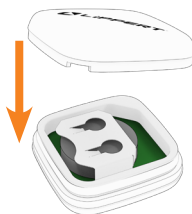

Fig.22
6. Put the platform into the transparent tray (Fig.22).